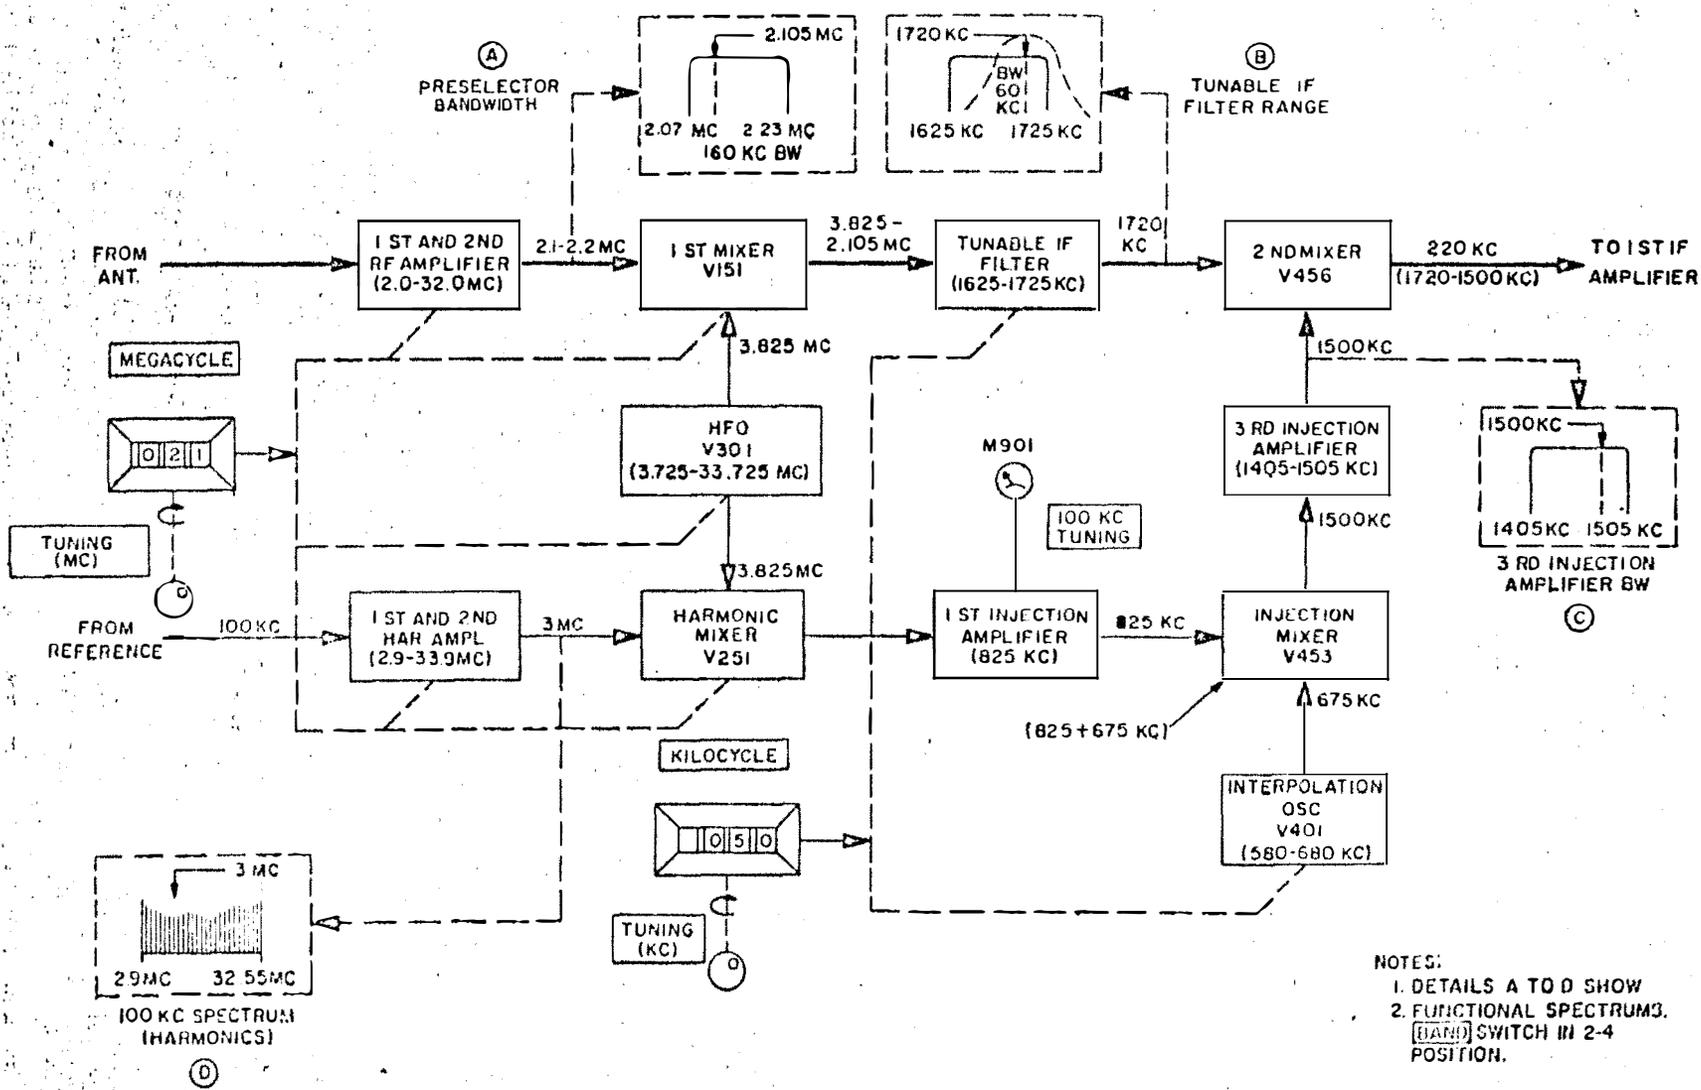

Figure 4-4. Countermasures Receiver R-1125/FLR, Base Tuning Diagram
e. TUNING SYSTEM. - Figure 4-4 is a block diagram showing the receiver tuning system, the stages which are jointly tuned, and the functional relationship between the two tuning controls (TUNING (Mc) and TUNING (Kc)). To serve as an example, the frequency of 2.105 mc has been arbitrarily selected as the frequency to which the receiver is tuned. All signal and injection frequencies noted in figure 4-4 are present when the receiver is tuned to this frequency.
(1) MEGACYCLE COUNTER. - When the receiver is tuned to 2.105 mc the MEGACYCLE counter will read 02.1, and the preselector will be tuned to accept a 160-kc wide signal band between 2.07 and 2.23 mc (see detail A in figure 4-4). Because the high-frequency oscillator (HFO) is jointly tuned with the preselector, setting the MEGACYCLE counter to 02.1 also tunes the HFO to a frequency of 3.825 mc. The received signal of 2.105 mc is combined with the 3.825 mc oscillator signal in the
The harmonic amplifier is jointly tuned with the preselector and HFO to select the 3.0-mc harmonic of the 100-kc reference signal (see detail D in figure 4-4). This harmonic (the 30th is combined with the 3.825-mc HFO signal in the harmonic mixer (V251) to obtain the 825-kc injection signal which is applied to the first injection amplifier stage ($3.825 \text{ minus } 3.0 = 0.825$). After amplification, the 825-kc injection signal is applied to the injection mixer (V453) where it is combined with a signal from the interpolation oscillator.
(2) KILOCYCLE COUNTER. - When the receiver is tuned to a signal frequency of 2.105 mc the KILOCYCLE counter will read 05.0, and the tunable i-f filter is tuned to accept all signals (within a 60-kc band) centered at 1720 (see detail B in figure 4-4). The interpolation oscillator is jointly tuned with the tunable i-f filter, and the oscillator output is a 675-kc signal which is applied to the injection mixer (V453). The mixer combines the 675-kc signal with the 825-kc signal from the injection amplifier to obtain a 1500-kc signal ($675 \text{ plus } 825 = 1500$), which is amplified by the third injection amplifier stage and applied to the second mixer (V456). The second mixer combines the 1500-kc injection signal with the 1720-kc signal from the tunable i-f filter to produce a 220-kc i-f frequency for the first i-f amplifier ($1720 \text{ minus } 1500 = 220$), (see detail C, figure 4-4).
f. DRIFT CANCELLATION. - Figure 4-4 also shows the drift cancellation circuit for the HFO. Frequency drift occurring in the HFO (V301) is cancelled and does not appear at the second mixer output (V456). The second mixer receives two input signals; one at 1720 kc from the tunable i-f filter, and one at 1500 kc from the third injection-amplifier stage. Since both signals are derived from the HFO output, frequency drift in the HFO will have equal effect on each signal. The 220-kc difference frequency from the 2nd mixer (V456) will not change as a result of HFO drift. A detailed explanation of the drift-cancelling process is given in paragraph 4-2a(4).